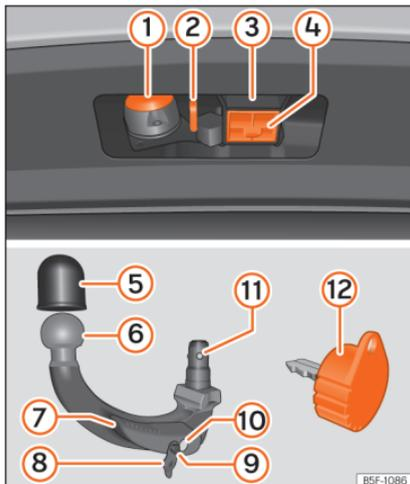

Fig. 251 The towing device supports trailers / tow hook / key
- The top part of the hook housing is greased »» Fig. 251 ③. When using the device, make sure that it has not been removed.
- Remove the hook housing cap >>> Fig. 251 (4) downwards.
- Fit cover **(4)** » **Fig. 251** onto its housing.